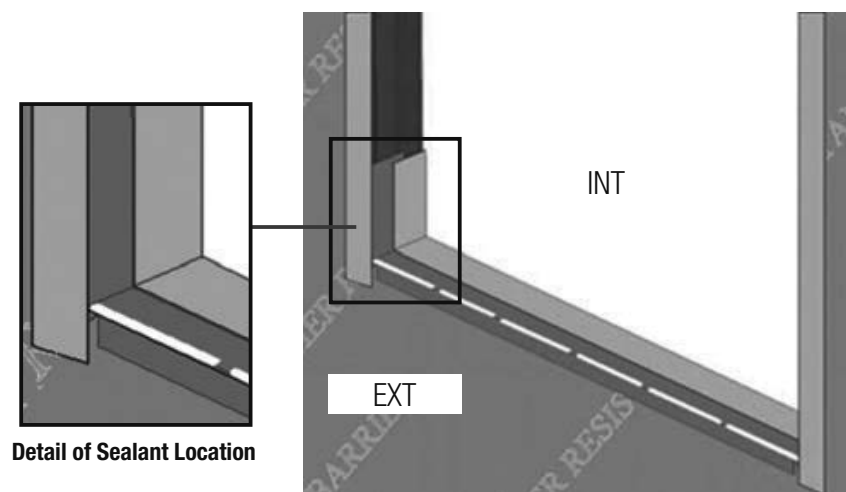

FIG. 13
- G) Apply sealant to sill: Apply a discontinuous bead of sealant at the top of the sill along the edge of the rough opening. Alternate using a 6" long bead with 1" gaps as shown below. (Fig. 13, 17 & 18).